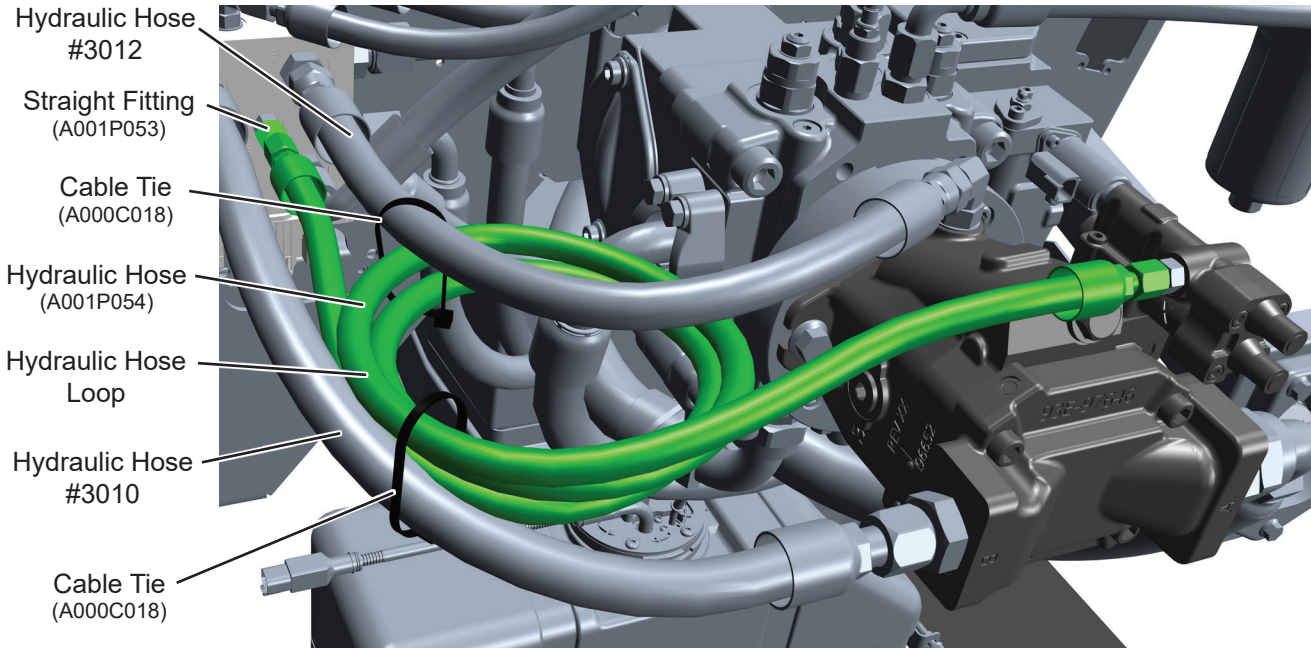

Figure 3 - Hydraulic Hose Installation
7. Connect one end of new hose (A001P054) to fitting installed in Step 6. See Figure 3. Final tighten hose end to 21 ft. lbs.
8. Make counterclockwise loops in new hose (A001P054) and connect other end of hose to fitting on auxiliary pump where hose was disconnected in Step 5. See Figure 3. Final tighten hose end to 21 ft. lbs.
9. Secure loops in hose (A001P054) to auxiliary pump hose #3010 and #3012 with cable ties (A000C018). See Figure 3. Make sure hose does not rub on anything when cable ties are final tightened.